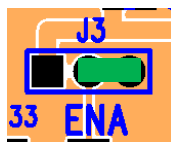

Figure 1: Shows the Enable jumper in the DISABLE position.
STEP 1: Set the ENA jumper J3 to the Disable Position, as shown in Figure 1.